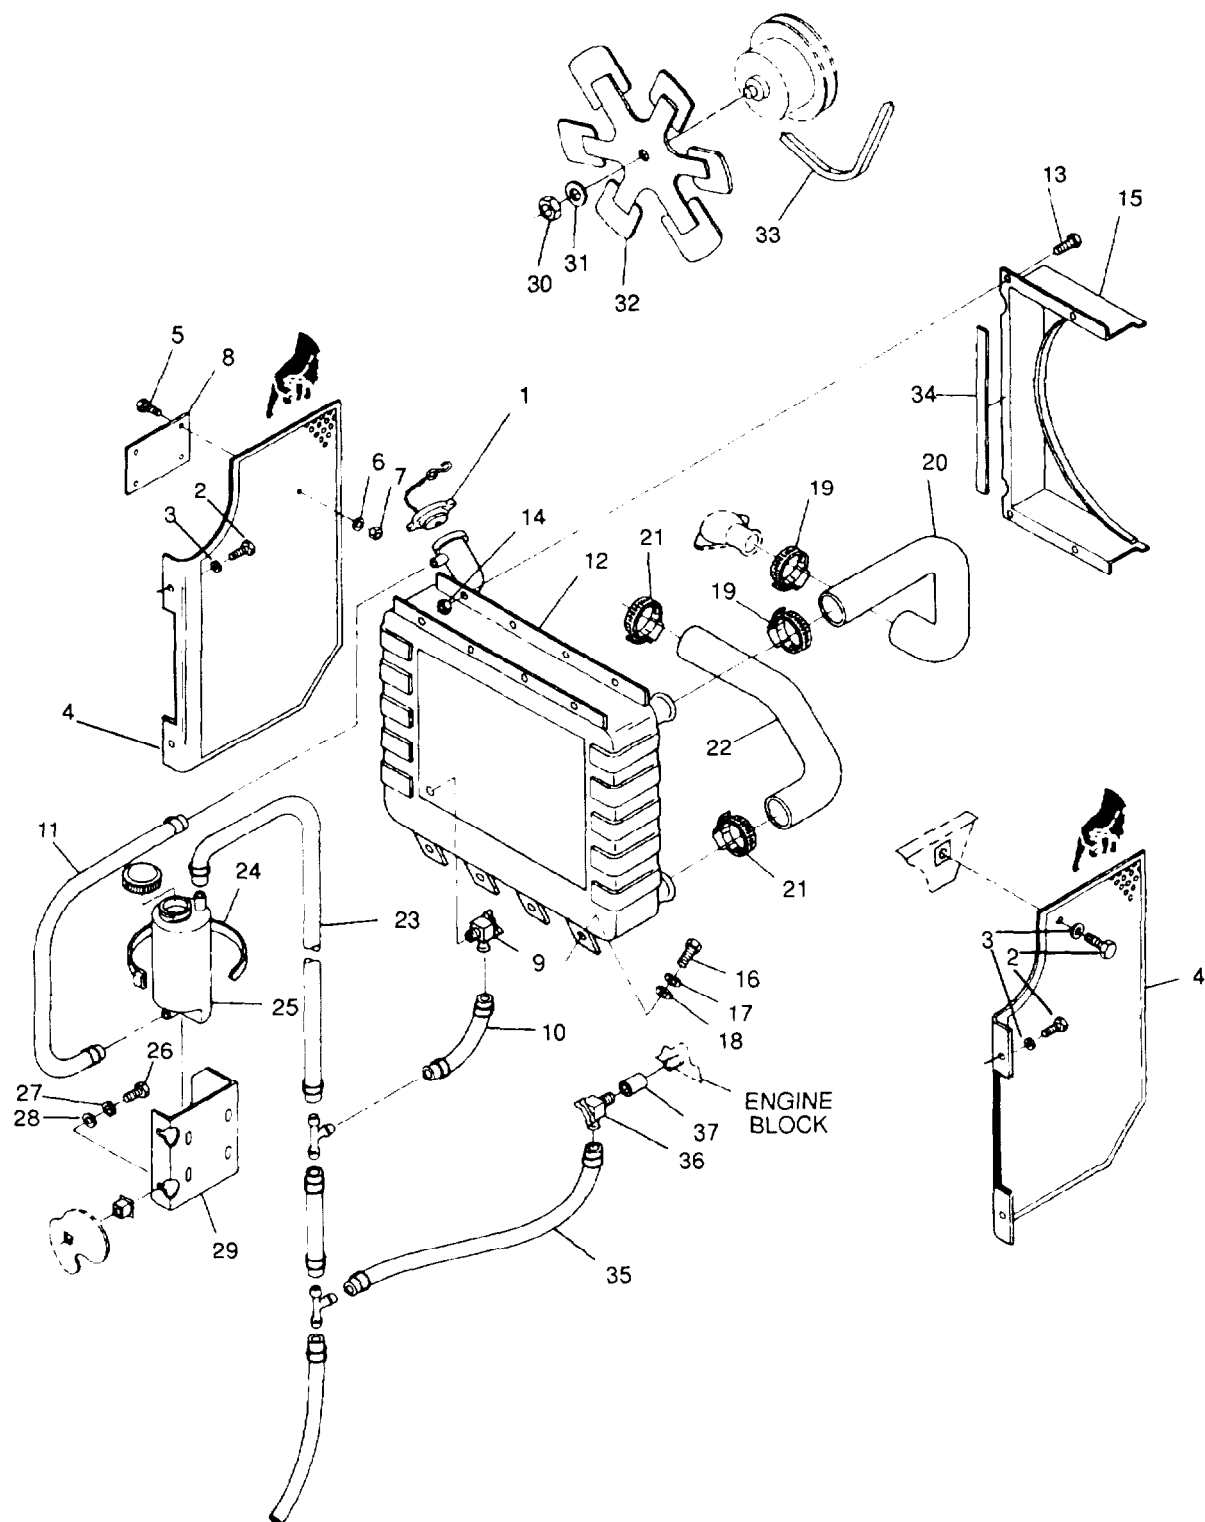

FIGURE 2-20. Radiator Assembly and Cooling System
- e. Remove radiator cap (1, FIGURE 2-20).
- f. Remove bolts (2), washers (3), and fan guards (4).
- g. Remove bolts (5), washers (6), nuts (7), and caution plate (8).
- h. Open radiator drain valve (9) and drain coolant into suitable container.
- i. Disconnect drain hose (10) and overflow hose (11) at radiator (12).
- j. Loosen hose clamps (19) and remove upper coolant hose (20).
- k. Loosen hose clamps (21) and remove lower coolant hose (22).
- i. Remove bolts (13), nuts (14), and shroud halves (15).
- m. Remove bolts (16), lockwashers (17), washers (18), and radiator (12) from generator set.
- n. Remove drain valve (9) from radiator (12).
- b. Inspect radiator (12, FIGURE 2-20) for excessive corrosion, cracks, or bent cooling fins.
- d. Inspect seals (34) for looseness and deterioration.
- a. Replace defective radiator cap (1, FIGURE 2-20).
- c. Replace damaged seals (34).
- a. Install drain valve (9, FIGURE 2-20) in radiator (12).
- b. Install radiator (12) in generator set with bolts (16), lockwashers (17), and washers (18).
- c. Install shroud halves (15) with bolts (13) and nuts (14).
- d. Install clamps (21) and lower coolant hose (22).
- e. Install clamps (19) and upper coolant hose (20).
- f. Attach drain hose (10) and overflow hose (11) to radiator (12) and drain valve (9).
- g. Install caution plate (8) on right side fan guard (4) with bolts (5), washers (6), and nuts (7).
- h. Install fan guards (4) with bolts (2) and washers (3).
- k. Ensure drain valve (9) is closed.
- c. Remove radiator cap (1, FIGURE 2-20).
- d. Remove bolts (2), washers (3), and left side fan guard (4).
- e. Loosen clamps (19) and remove upper coolant hose (20).
- a. Push upper coolant hose (20, FIGURE 2-20) onto thermostat housing opening and radiator inlet. Tighten clamps (19).
- b. Install left side fan guard (4) with bolts (2) and washers (3).
- c. Install radiator cap (1).
- e. Add coolant as required to overflow bottle (25). See TABLE 2-1 for recommended coolant.